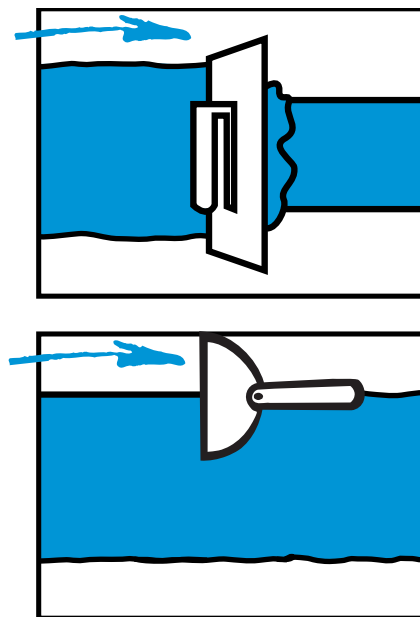

FIGURE 56 Second Coat
- Using a 200mm trowel to apply a second coat of compound [Refer to Figure 56 and to Figure 59 for minimum coat widths]